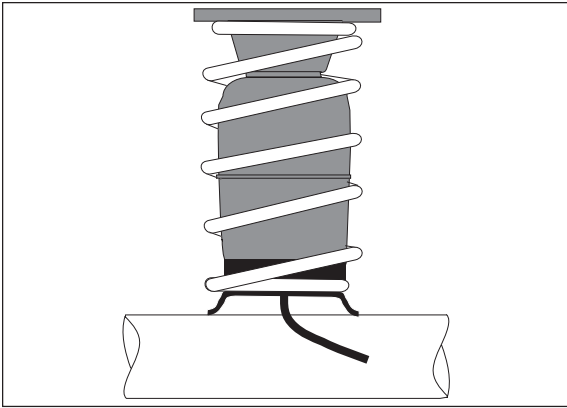

Figure 4
5. Insert the cylinders into the springs with the stem pointing downward. Install the springs back onto the vehicle's rear suspension. Add one round protector on the stem side (bottom) of the cylinder (Figure 4). Line up the mark previously made to align the air spring into position.
- F. Insert air line through spring seat and protector (Figure 4).
- C. Insert the air line through the spring seat and protector (Figure 4).